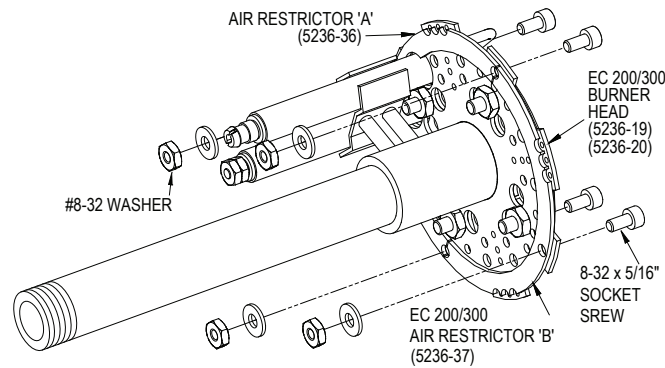

Figure 7: Air Restrictors
3. Put the air restrictor A in the place, see Figure 7 for reference. The air restrictor A should be installed on the back side of the burner head; on the same side of the electrodes. Install one screw in the middle hole of air restrictor and put one nut on the screw.
4. Put the air restrictor B in the place, see Figure 7 for reference. Install one screw in the middle hole of air restrictor and put one nut on the screw.